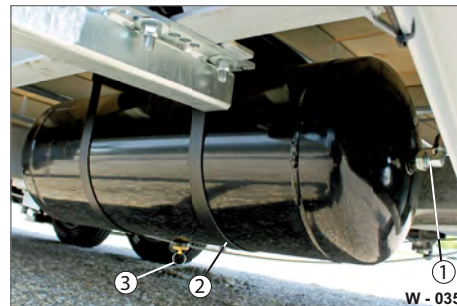

Fig. 35 Chassis underside
- ▶ Check that the screw fittings (Fig. 35/1) are secure.
- ▶ Replace damaged hoses and pipes (Fig. 35/1).